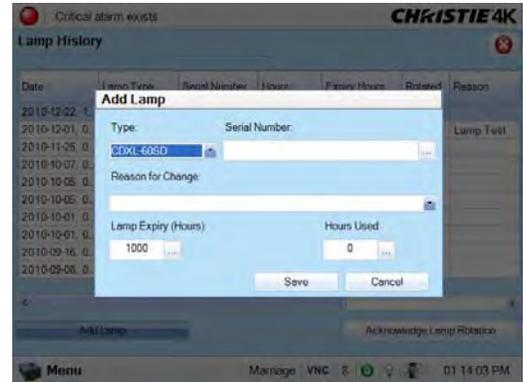

Figure 5-49 Add Lamp Window
- 6. Perform software adjustments. In the **Advanced Setup: Lamp History** window, tap the **Add Lamp** button and record lamp type, serial number, reason for change and number of the hours logged on to the lamp. If the lamp has not been previously used, enter 0. Press **Save** to save the data entered **(Figure 5-49)**.